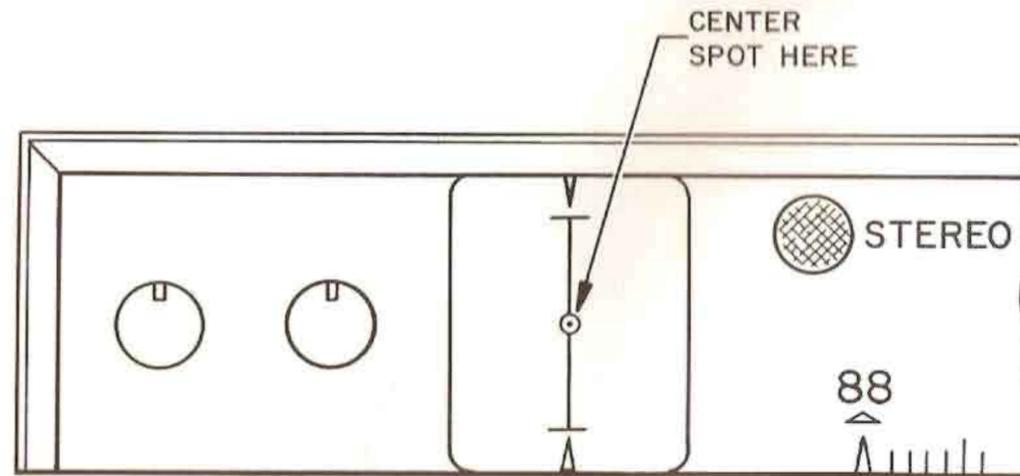

Figure 4. CRT Centering
- Step 2.** Adjust the **CENTERING** controls to bring the dot into the center of the small circle (as illustrated in Figure 4).